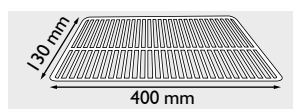

Figura 8
- Área de la parrilla: $130 \text{ mm} \times 400 \text{ mm} = 52.000 \text{ mm}^2 = (520 \text{ cm}^2)$ (figura 8)